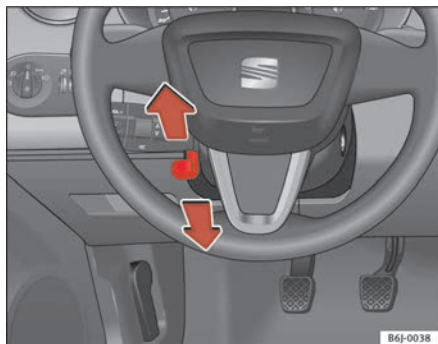

Fig. 93 Steering column height adjustment
- Push the lever ⇒ fig. 93 under the steering column down ⇒ ⚠.
- Adjust the steering wheel until the correct position is set ⇒ fig. 93.
- Adjust the driver's seat or steering wheel so that there is a distance of at least 25 cm between the steering wheel and your rib cage ⇒ fig. 93. If you fail to observe the minimum distance, the airbag will not protect you. Risk of fatal injury.